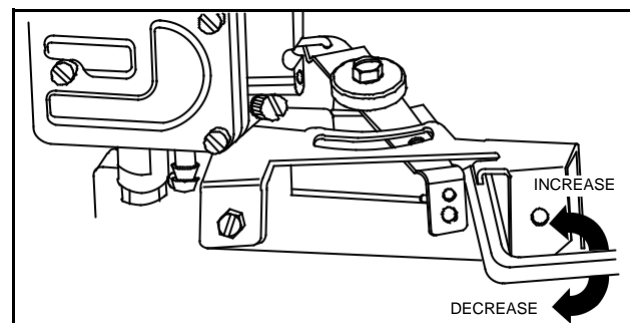

Fig. 44 – Adjust Top-No-Load Speed
7. Start engine in "FAST" position and adjust tang, Fig. 44, to obtain Top-No-Load RPM specified by Equipment Manufacturer.